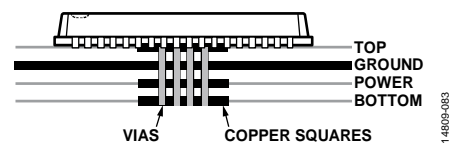

Figure 86. Exposed Pad Layout Example—Side View
- Place a copper layer, equal in size to the exposed pad, on all layers of the PCB, from top to bottom. Connect the copper layers to a dedicated copper PCB layer (see Figure 86).